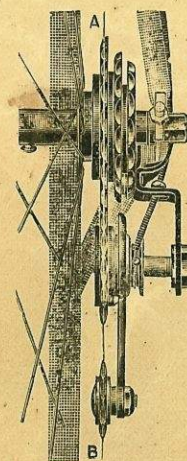

Fig. 2. — Showing correct alignment of actuating spindle "C."
2.—Fix support (L) to the chainstay.
It is of the utmost importance that the lower part of the support shall be vertical as shown in Fig. 2, so that when the outside and inside nuts of the slotted spindle (C) are tightened the spindle will be horizontal.
Work the control lever and see that the jockey (B) and tension (F) cogs are in line with each of the three sprockets in turn (see Fig. 2).
This is illustrated in Fig. 2, the cogs mentioned are in line from A to B. When the control lever is approximately vertical the cable nipple will be at the bottom of the groove and the cogs B and F will be in line with the middle sprocket.